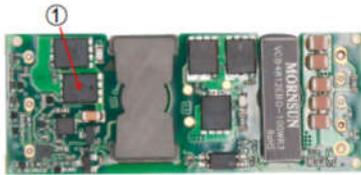

Figure 5
The thermal element is installed on the top surface of the product and dissipates heat to the surrounding environment by conduction, convection and radiation. Sufficient heat dissipation conditions should be provided to ensure the reliable operation of the product. Whether the heat dissipation conditions are satisfied can be verified by the temperature of the thermal test point ① in Figure 5.